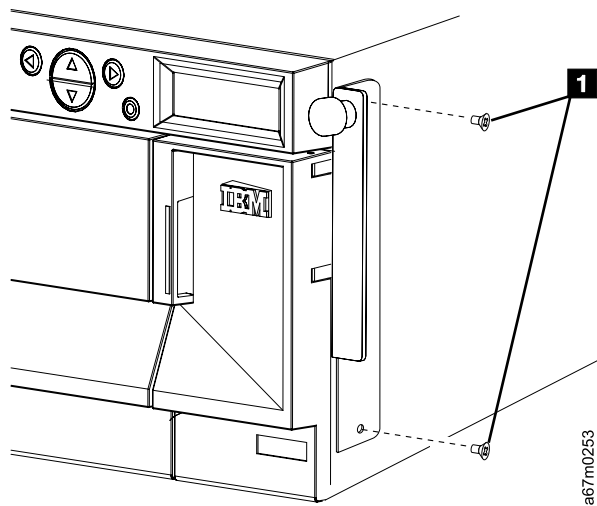

Figure 15. Installing the mounting brackets
11. Turn your library right-side up. Align the library's Right Mounting Bracket (part number 18P7712) at the right front corner of the library, aligning the holes with the second hole from the top of the library and the second hole from the bottom of the library. Attach the bracket using two M3 X 6 flat head Phillips screws (see **1** in Figure 15). Repeat for the Left Mounting Bracket (part number 18P7710), attaching it to the left front corner (this bracket has three holes, one of which is a clearance hole for a screwhead).